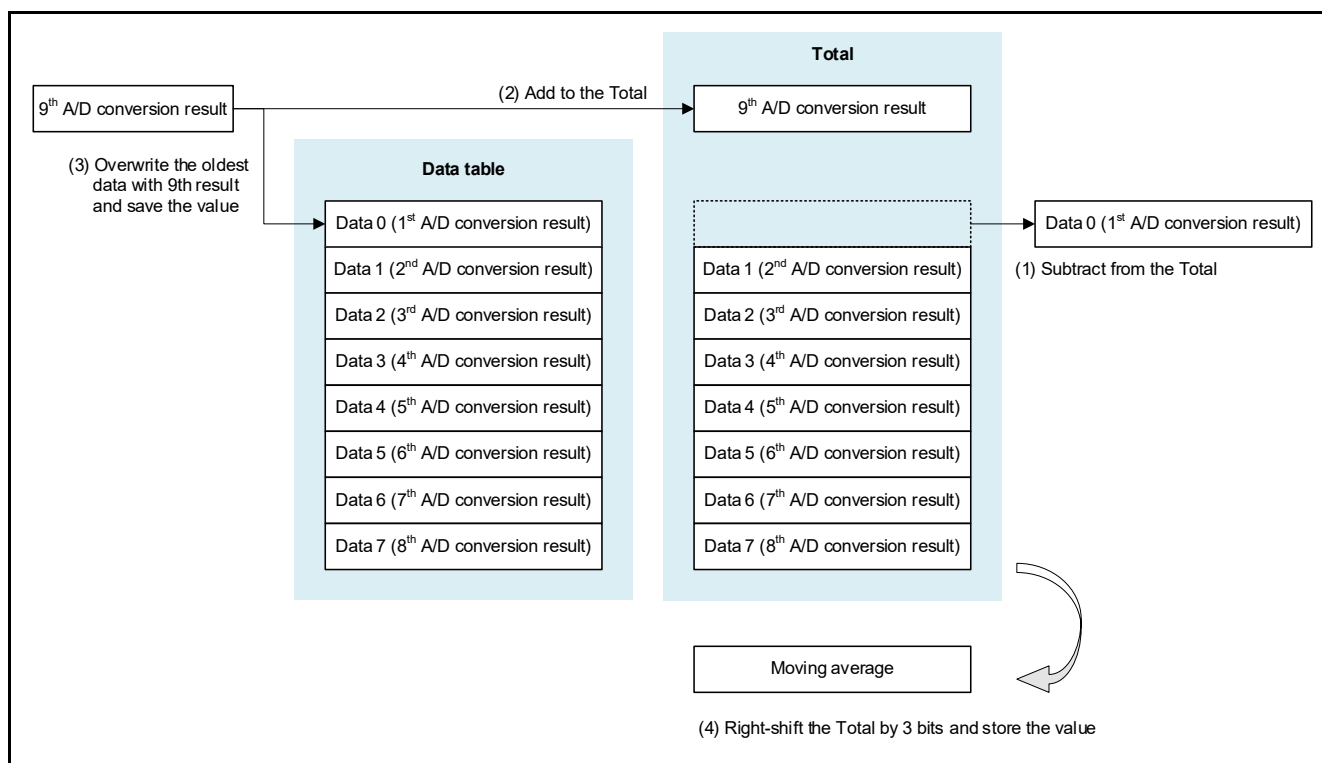
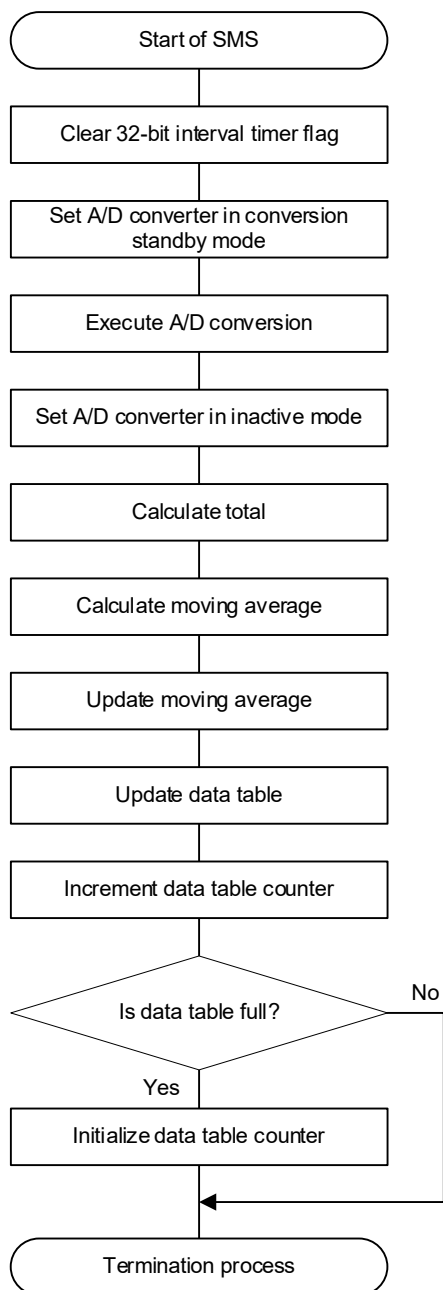

Figure 2.1 Mechanism of Calculating the Average
Figure 2.2 Flowchart of Average Calculation Processing
Figure 2.1 shows the mechanism of calculating the average and Figure 2.2 shows the flowchart of average calculation processing.
To calculate the average, the SMS performs steps (1) to (4) in Figure 2.1. The Total stores the total value of the last 8 A/D conversion results. The SMS subtracts the oldest data from this total value, adds the latest A/D conversion result, and updates the Total. The SMS then divides this new Total by divisor 8 (right-shift by 3 bits) to determine the average of the 8 most recent A/D conversion results.